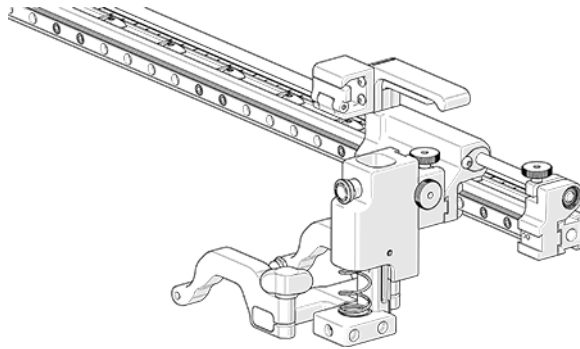

Figure 3-26 Lowered toward scan surface
2. Slowly lower the probe holder towards the scan surface (see Figure 3-26 on page 59).